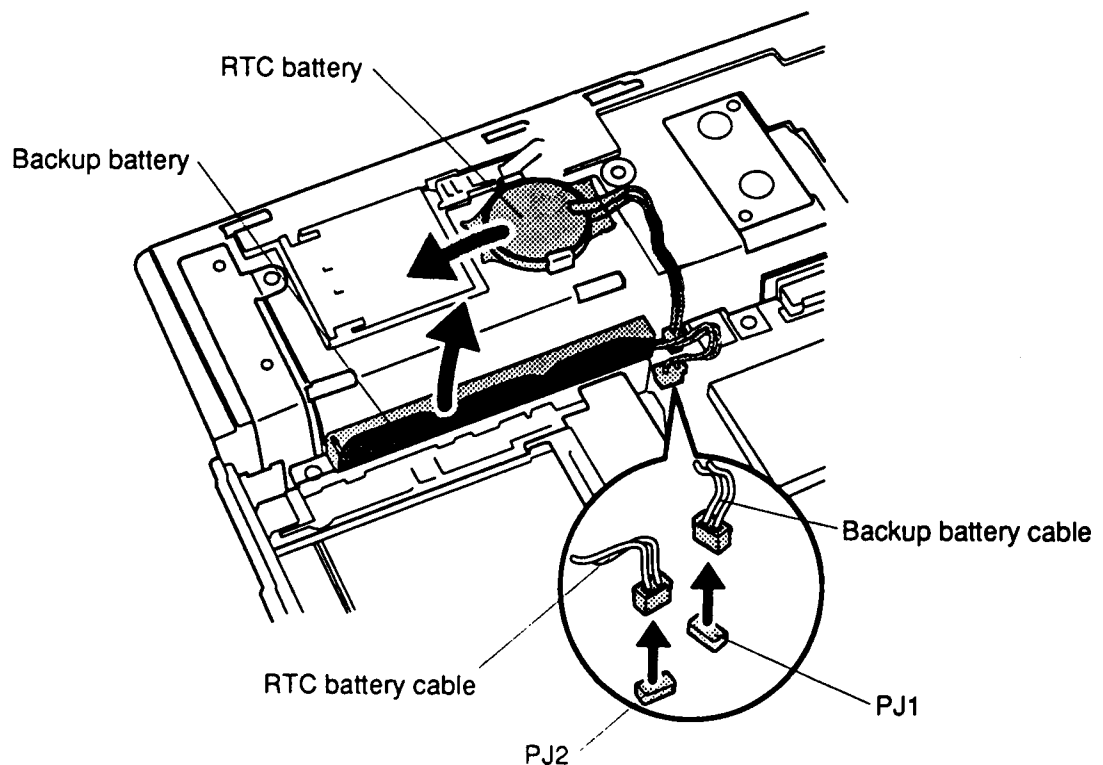

Figure 4-14 Removing the RTC and Backup Batteries
To remove the RTC and backup batteries, follow the steps below and refer to Figure 4-14.
3. Disconnect the **RTC battery cable** from **PJ2** on the system board (Figure 4-14).
4. Slide the **RTC battery** out of the retaining brackets to remove (Figure 4-14).
5. Disconnect the **backup battery cable** from **PJ1** on the power supply board, lift the backup battery out of the bottom cover, and remove the clear plastic insulator (Figure 4-14).
To install the RTC and backup batteries, follow the steps below and refer to Figure 4-14.
1. Replace the clear plastic insulator on the backup battery (Figure 4-14).
2. Connect the **backup battery cable** to **PJ1** on the power supply board and seat the backup battery in the bottom cover (Figure 4-14).
3. Slide the **RTC battery** under the brackets (Figure 4-14).
4. Route the **RTC battery cable** under the clear plastic insulator, then connect the cable to **PJ2** on the system board (Figure 4-14).